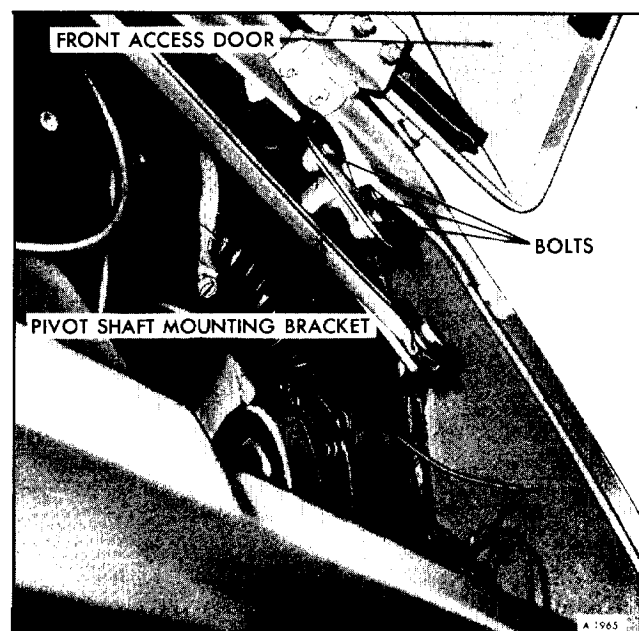

Figure 12-Pivot Shaft Mounting Bracket
3. Remove three bolts from transmission pivot shaft mounting bracket as shown in Figure 12. Remove assembly.